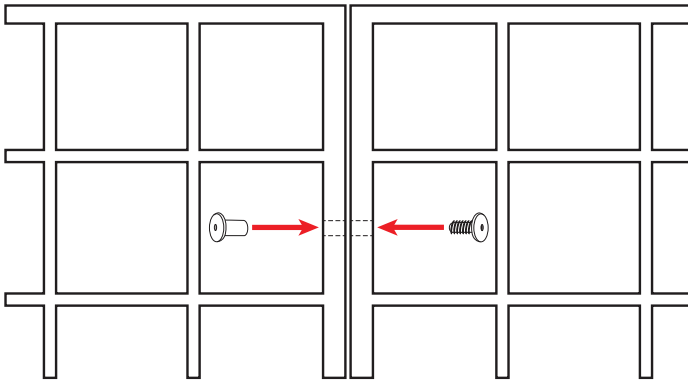
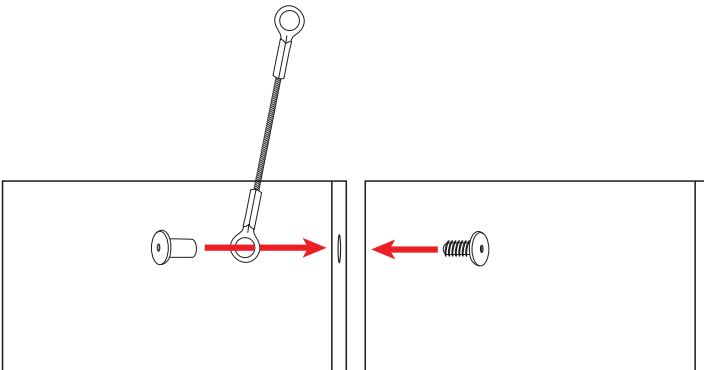

Figure 2
Figure 3
2 Mark & Drill Holes: Cut out the supplied template to mark the locations for the supplied connector bolts and drill the holes. To minimize the chance of splitting the Bamboo, we recommend drilling each hole in two steps. Make the initial hole with a 1/4" drill followed by a 3/8" bit to bring the hole to the proper size. We also recommend using sharp or new drill bits for best results. Circled areas in the above illustrations are recommended suspension cable attachment points (*see figure 3 for more detail*). **NOTE:** For marking holes on the ends of a two Lens array (*pictured above*) center the template 6.5" from each end.
- ③ **Bolt Together:** Prior to assembly, determine which connector bolt pairs will include the suspension cables and assemble per the illustration below. Insert connector nut into hole from inside of **WaveLens** (see figure 3). Line up holes of the adjacent **WaveLens** and thread the connector bolt in to the connector nut (see figure 2). Secure on both sides with the supplied hex wrenches. **Do not over tighten to avoid splitting the bamboo.** Repeat for each connection